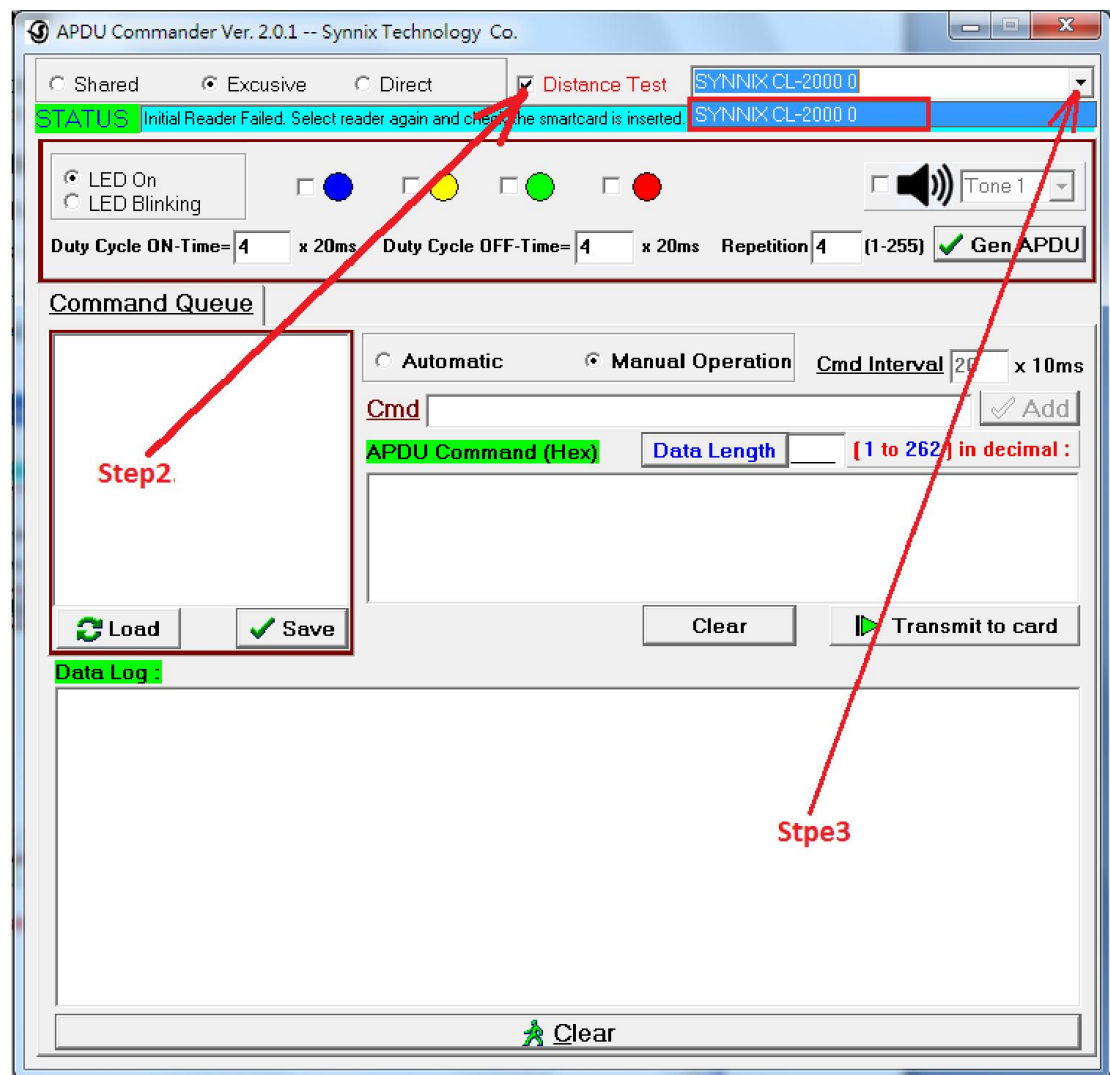

Figure 1
2. Click on the “DistanceTest”. see Figure 1.
3. Pull-down the manu bar and select “SYNNIX CL-2000”. see Figure 1.